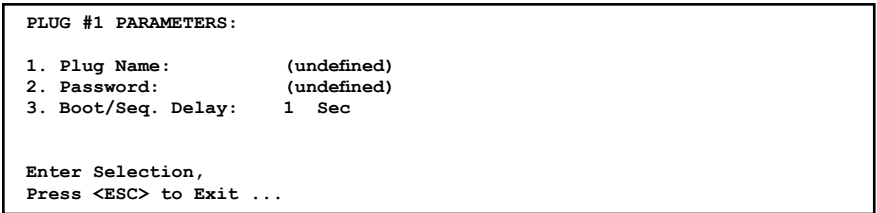

Figure 5.8: Plug Parameters Menu - Text Interface (Plug 1 Shown)
- **Text Interface:** Type **/P n** and then press **[Enter]** (Where **n** is the number or name of the plug you wish to configure.) The Plug Parameters Menu will be displayed as shown in Figure 5.8.